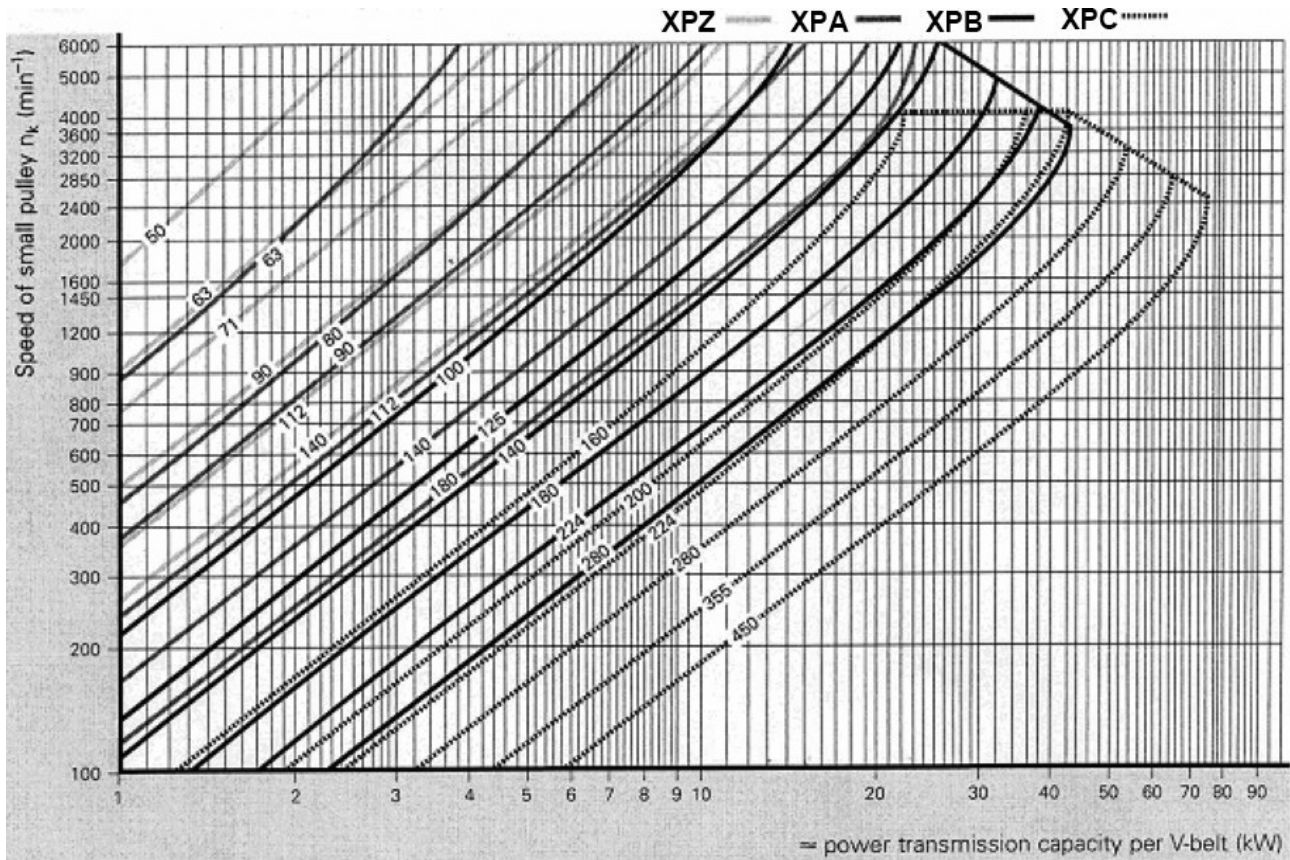
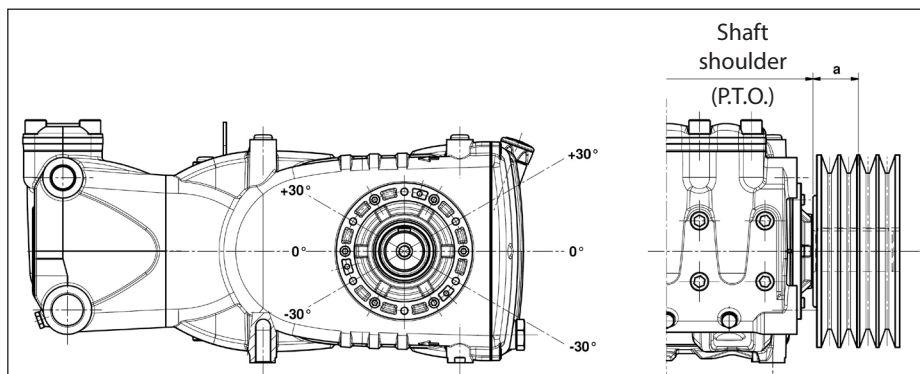

Fig. 7
Fig. 10
For this pump model, we recommend use of 4 XPB belts (16.5x13 serrated). Use an XPC profile only for long durations. Both the characteristics and transmissible power of each belt can be verified in the diagram in Fig. 7, in relation to the number of rpm normally declared by the manufacturer. Minimum duct pulley diameter (on pump shaft): ≥ 250 mm. The radial load on the shaft must not exceed 7500 N (value necessary for Layout definition). The transmission is considered adequate if the load is applied to a maximum distance $a=40$ mm from the shaft shoulder (P.T.O) as shown in Fig. 10.
- b) Use high performance belts – for example **XPB** instead of **SPB** – as a lower quantity of belts for the same transmitted power may be necessary and a consequent shorter resulting distance compared to the shaft shoulder (P.T.O.) "a" of Fig. 10.